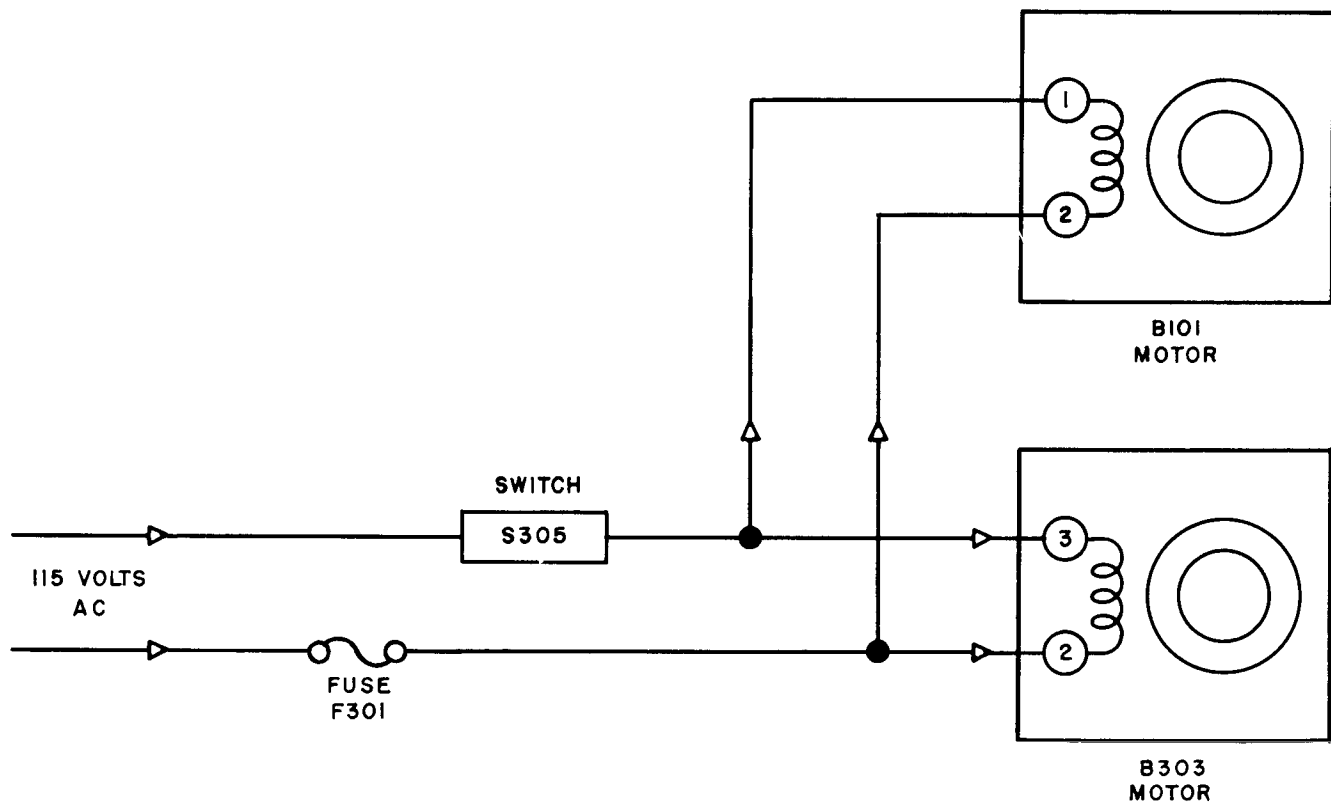

Figure 2-19. Fan Motors B101 and B303, Simplified Schematic Diagram
k. FANS MOTORS B101 AND B303. (See Figure 2-19.)—Both the upper and lower chassis assemblies contain shaded pole fan motors, B101 in the upper and B303 in the lower. Both motors are controlled by thermo-switch S305 which automatically turns on both fan motors whenever the ambient temperature inside the cabinet reaches about 50° C. (120°F.). The fan motors will not shut off until the temperature drops to 41° C. (105°F.) The fans draw the cooler outside air into the cabinet through air filters in the front panel doors.